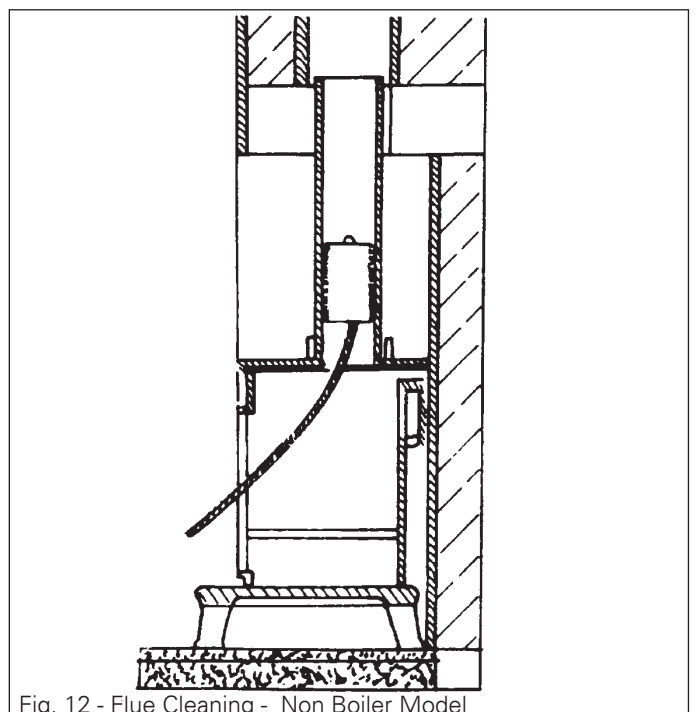

Fig. 12 - Flue Cleaning - Non Boiler Model
- c. Insert flexible brush into rear or top flue outlet brush deposits towards firebox (Fig.12).